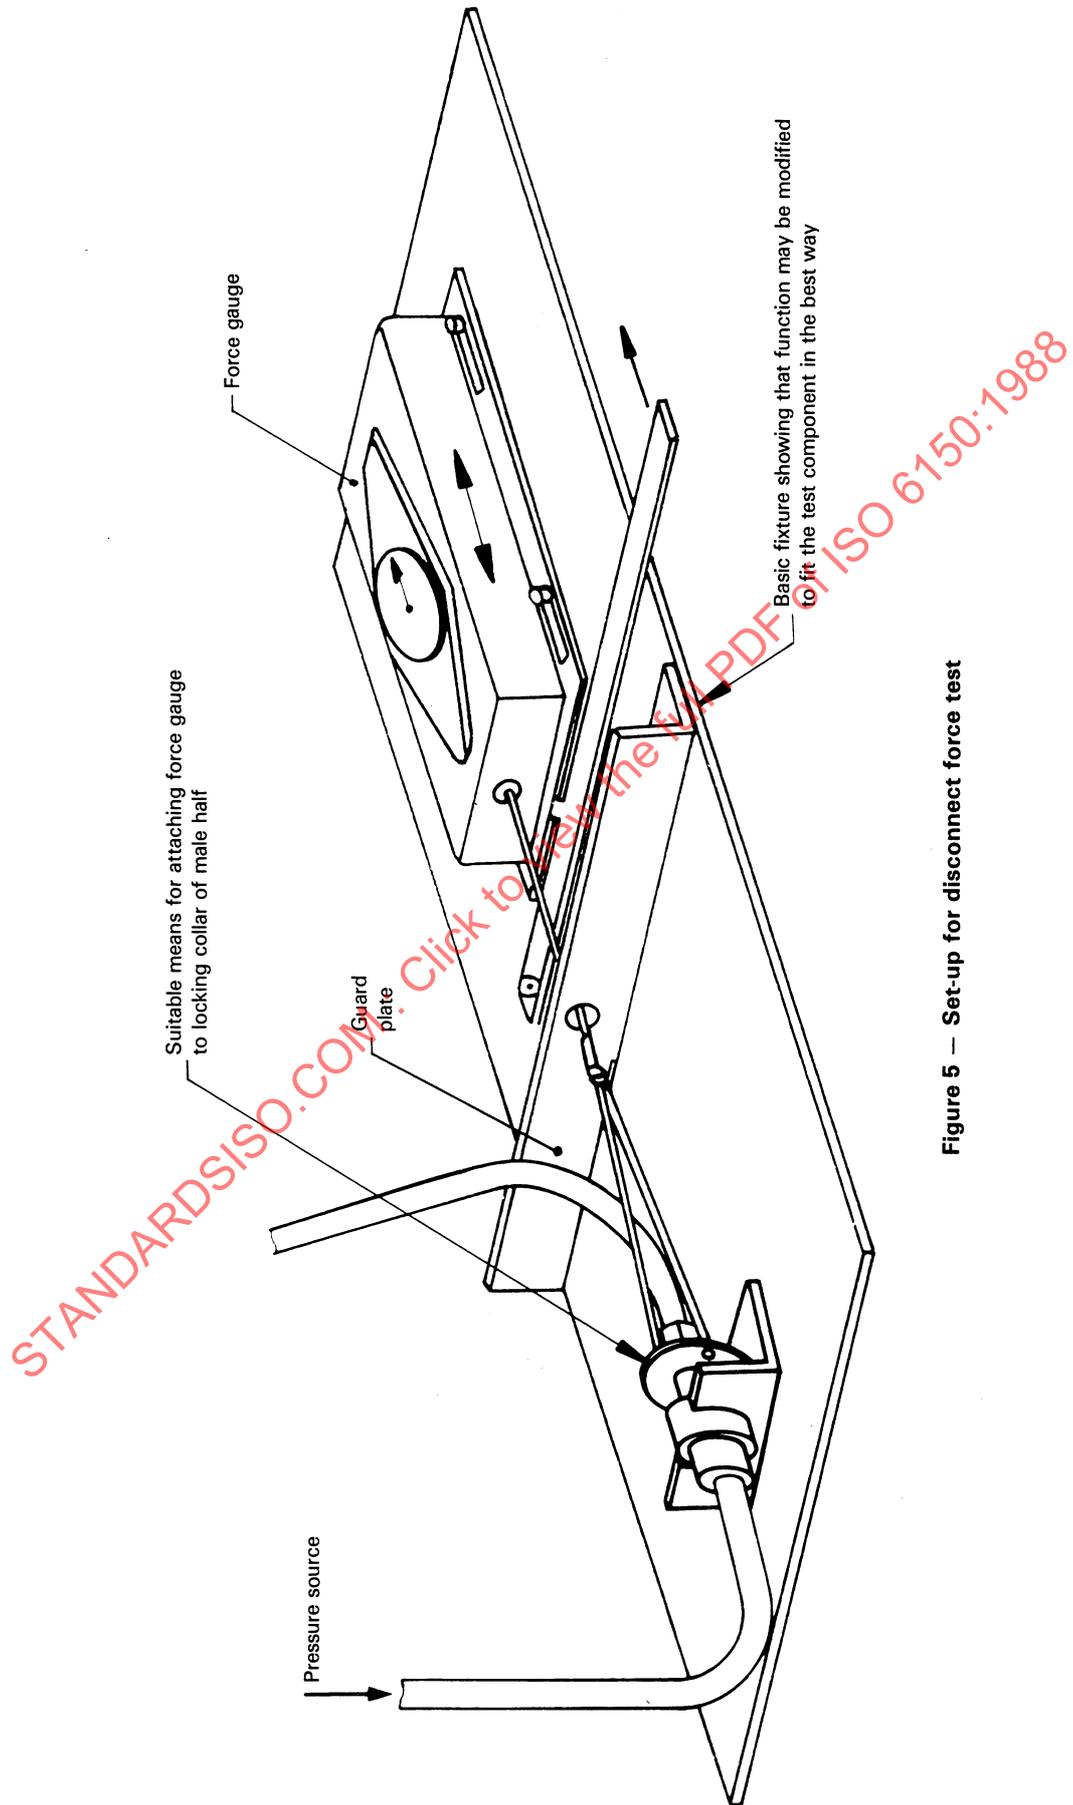

Figure 5 — Set-up for disconnect force test
The test methods and diagrams of the test set-ups as shown in figures 5 to 11 are given for illustration purposes and do not form part of the requirements.
**8.6.1.1** Insert the coupling assembly in an appropriate test fixture (see figure 5).